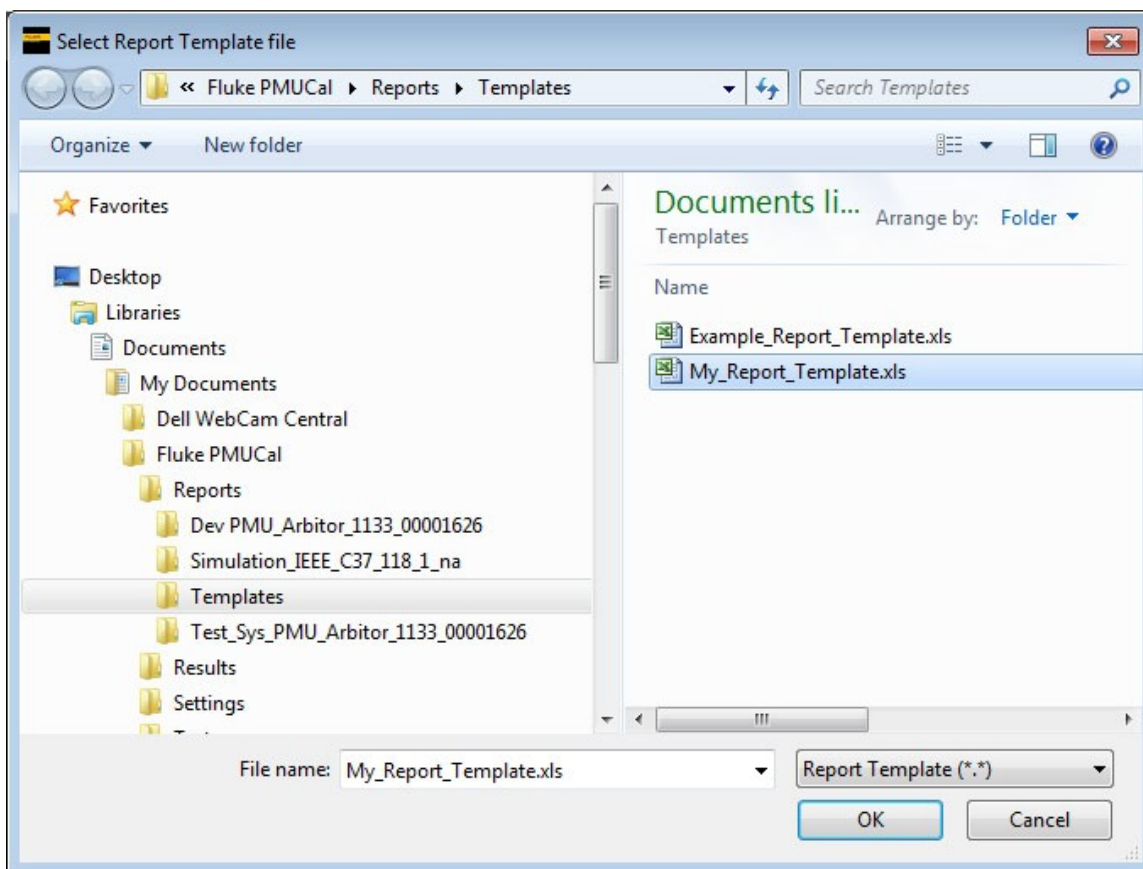

Figure 7-14. Template Selection
1. Click on **Create One Report**. A prompt will appear asking which report template to use. See Figure 7-14.
2. Create a list of result files and click on **Create Reports**. A prompt will appear asking which report template to use. See Figure 7-14.